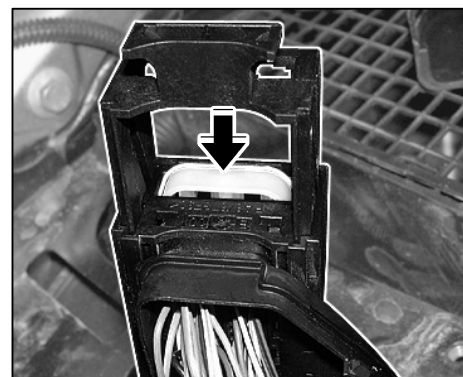

Figure 40
- 8.6.3 Insert secondary lock ⇒ Figure 40 -arrow- and close it.